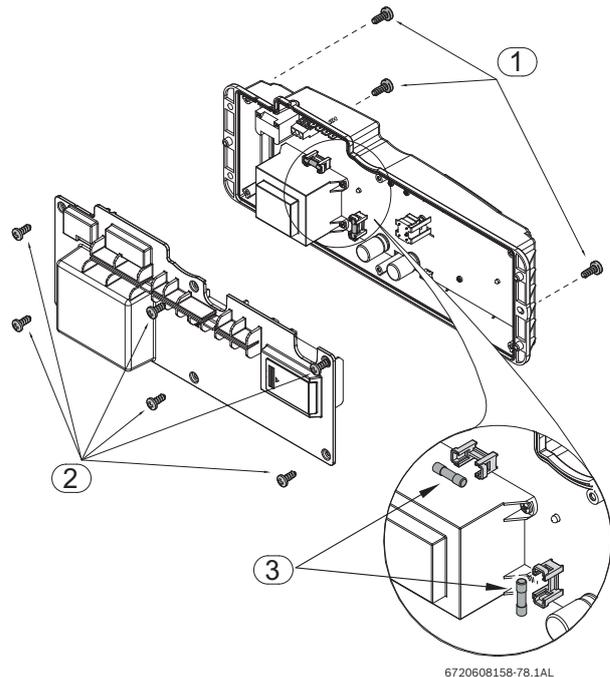

Fig. 39 Fuses position
- ▶ Remove the six screws from the back cover of the control unit, see Fig. 39, pos. 2.
- ▶ Check the fuses on the printed circuit board, see Fig. 39, pos. 3.